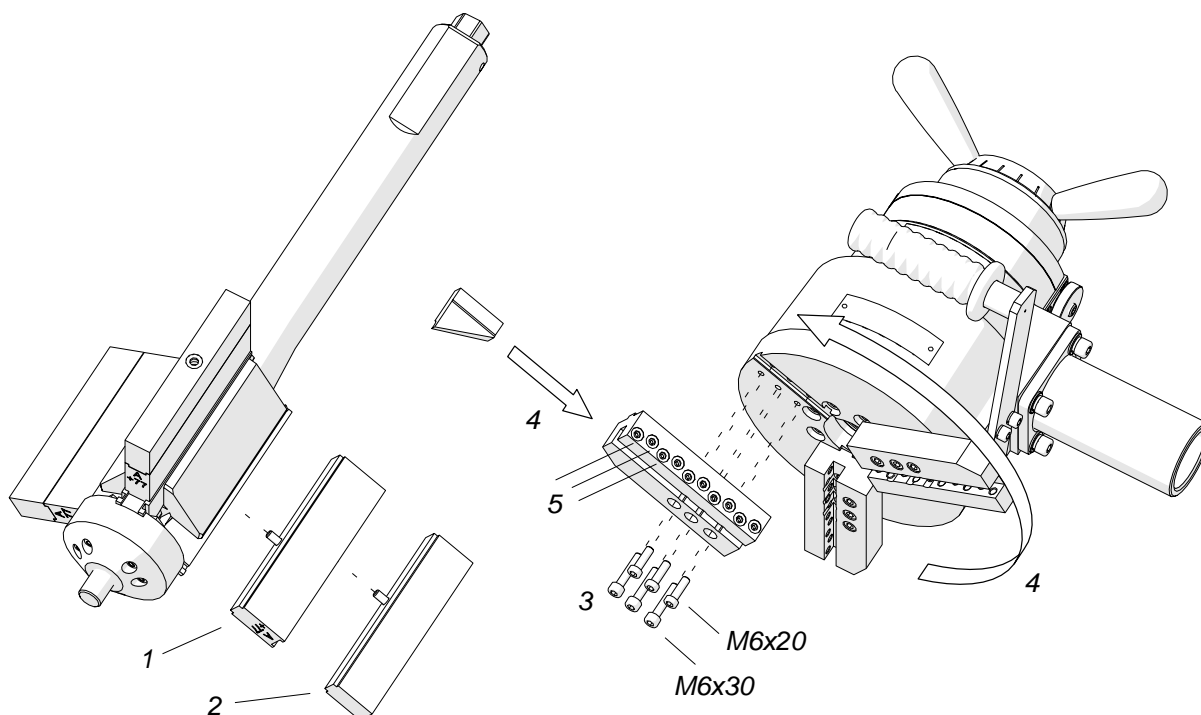
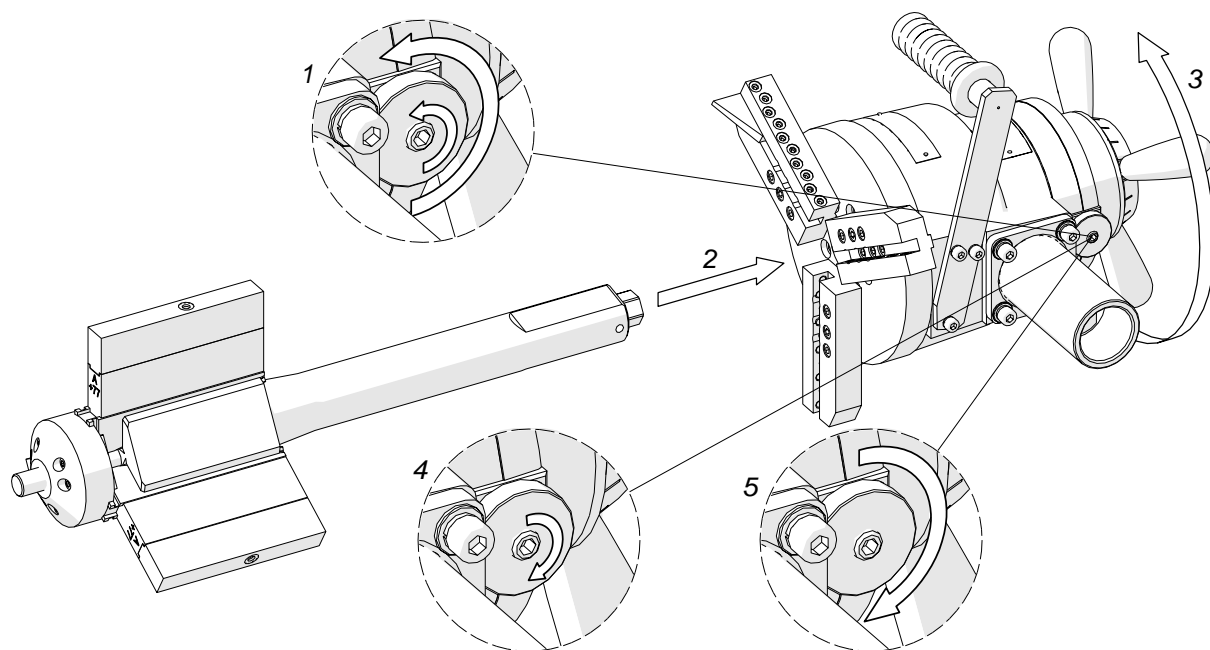

Fig. 2. Installing the jaw blocks, adapters, tool holders, and tool bits
Fig. 3. Installing the mandrel into the machine
Use the 5 mm hex wrench to screw the adapters (1, Fig. 2) and the jaw blocks 2 to the expanding mandrel.
Loosen the nut and use the 5 mm hex wrench to loosen the set screw (1, Fig. 3), and insert the mandrel into the machine (2). Make sure that tool bits installed are not in contact with the mandrel. Next, rotate the spoke handles to the right (3) by at least 10 turns until the mandrel engages with the machine completely. Then, tighten the set screw (4) and check whether the spoke handles can be rotated in both directions easily. If the screw is too tight, readjust it. Finally, tighten the lock nut (5).
To remove the mandrel, loosen the nut and use the 5 mm hex wrench to loosen the set screw (1, Fig. 3) to at least one turn. Then, rotate the spoke handles to the left to disengage the mandrel from the machine.
Install the mandrel after previously removing the existing expanding mandrel. To do this, loosen the nut and use the 5 mm hex wrench to loosen the set screw (1, Fig. 3) to at least one turn. Then, rotate the spoke handles to the left to disengage the mandrel from the machine.
Then, use the following table to select jaw blocks of the small expanding mandrel set suitable to the inside diameter of the pipe to be machined, use the 3 mm hex wrench to tighten them to the small expanding mandrel as shown in Fig. 2, and install the mandrel into the machine (2, 3, 4, 5, Fig. 3).
Install the set after previously removing the existing tool holders. To do this, use the 5 mm hex wrench to unscrew the screws (3, Fig. 2) and use them to install the tool holders of the extension set.
Use the following table to select jaw blocks of the extension set suitable to the inside diameter of the pipe to be machined, and use the same 5 mm hex wrench to tighten them to the standard expanding mandrel as shown in Fig. 2. Then, install tool bits in holders by tightening the screws (5, Fig. 2) using the 4 mm hex wrench.
Use the following table to select either standard jaw blocks suitable to the inside diameter of the pipe to be machined or jaws blocks of the extension set for flange facing. Then, use the 5 mm hex wrench to tighten them to the large expanding mandrel as shown in Fig. 2, and install the mandrel into the machine (2, 3, 4, 5, Fig. 3).